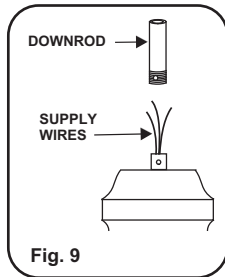
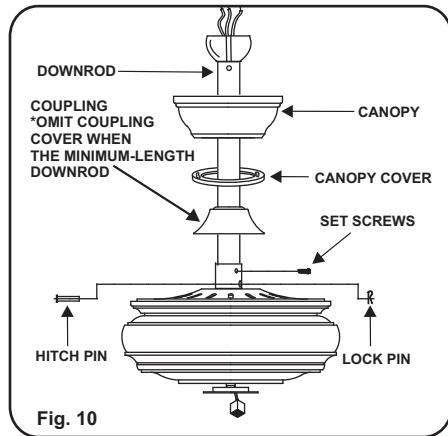

Fig. 9
Fig. 10
Step 6. Carefully feed fan wires up through the downrod. (Fig. 9) Thread Downrod into the Coupling until the holes are lined up and secure with the Lock Pin and Hitch Pin previously removed, tighten Set Screws. (Fig. 10)
Step 7. Slip Coupling Cover and Canopy onto Downrod. Carefully re-install the Hanger Ball onto the Downrod being sure that it's properly positioned over the Cross Pin and the wires are not twisted, tighten Set Screw. (Fig. 10)